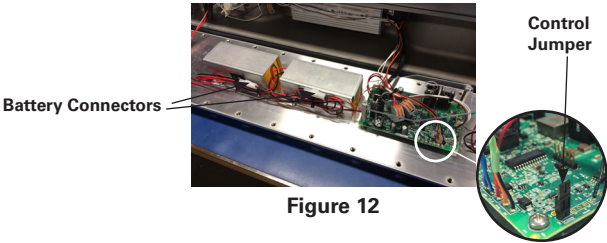

Figure 12
- 12. Disconnect the connectors from the charger/driver board from battery #1 and battery #2, respectively (see Figure 12).
- 13. Cut the wire ties on each wire tie mount on the two (2) battery hold-down clamps.
- 14. Remove the four (4) screws that secure each battery pack hold-down clamp and remove the old battery packs. Replace with new battery packs supplied by Eaton’s Crouse-Hinds Division.
- 15. Secure each hold-down clamp with four (4) screws and tighten to 5 in.-lbs. (0.6 N-m).
- 17. Bundle the battery leads neatly (see Figure 12) and secure them to the wire tie mounts using the wire ties supplied in the EM battery kit.
- 19. Re-install the twenty-four (24) socket head cap screws and lock washers from the driver housing using a 5mm hex wrench or bit.